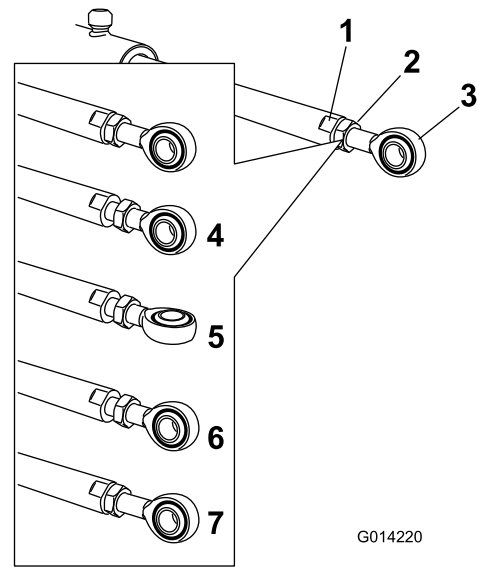

Figure 150
5. Hold the actuator rod at the flats of the rod using a wrench, then loosen the jam nut (Figure 150).
6. Turn the rod end in the actuator rod to shorten or lengthen the extended actuator to the desired position (Figure 150).